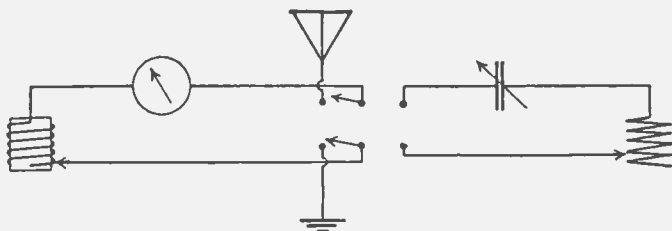

Fig. 4.—To Measure the Resistance of an Antenna, the Later is Replaced by a Dummy Circuit.
**I. Measurement of antenna resistance.** Fig. 4 shows a circuit used in measuring antenna resistance. The secondary of the oscillation transformer can be connected either to the antenna and ground or to a non-inductive resistance and a variable air-condenser.